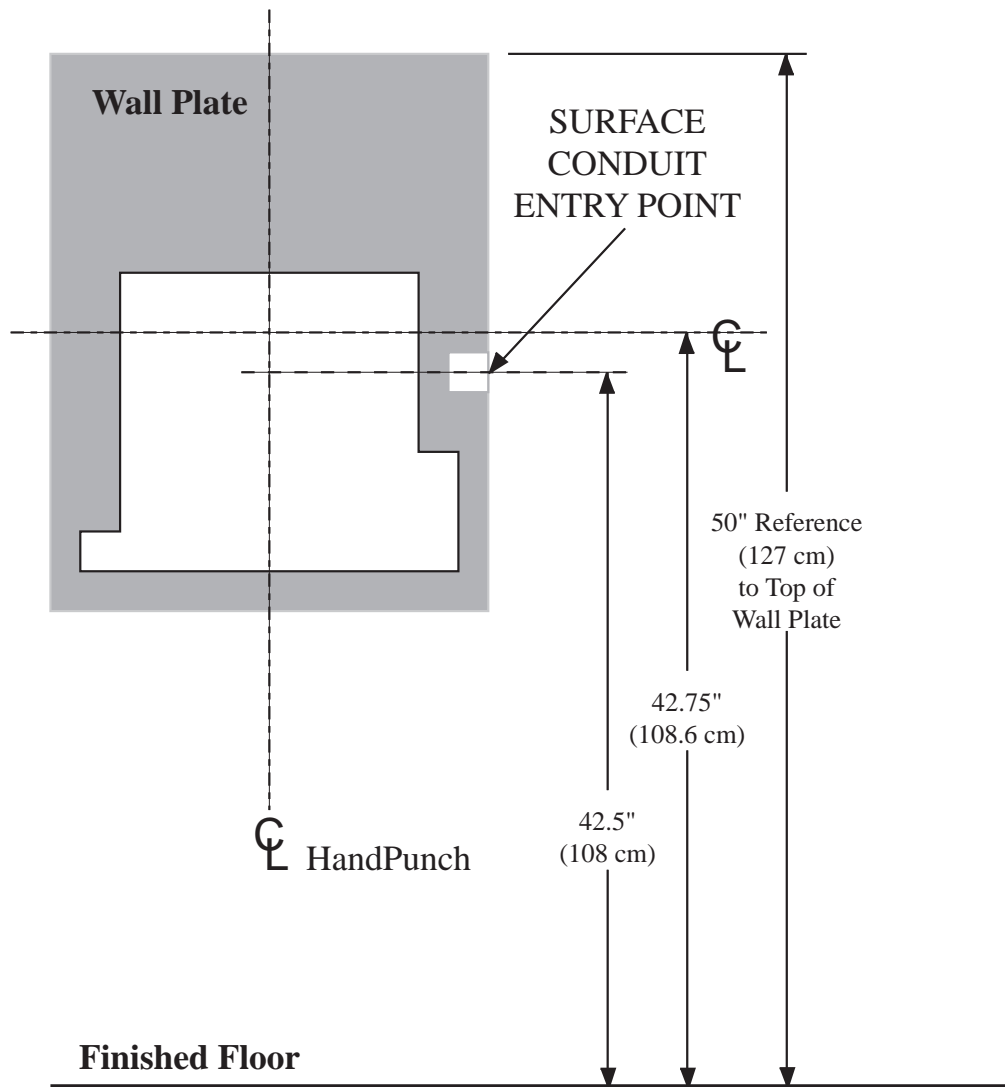

Figure 12-2: HandPunch Wire Routing Layout
1. Refer to Figure 12-2 on page 52 for a template diagram to assist in routing wiring.